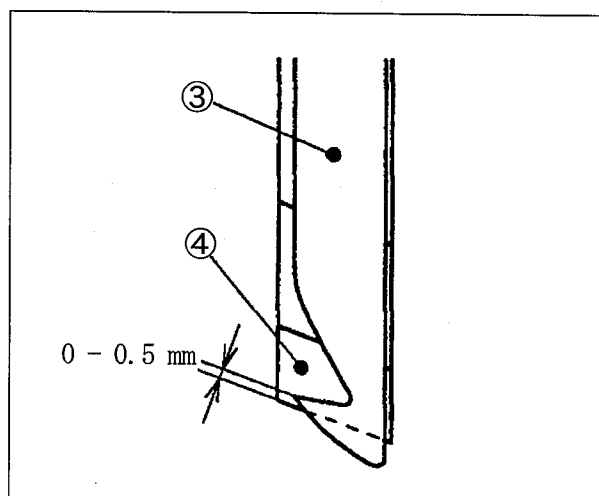

Fig. 40
The engagement between the movable trimming knife ③ and the fixed trimming knife ④ has been adjusted as shown in Fig. 40.